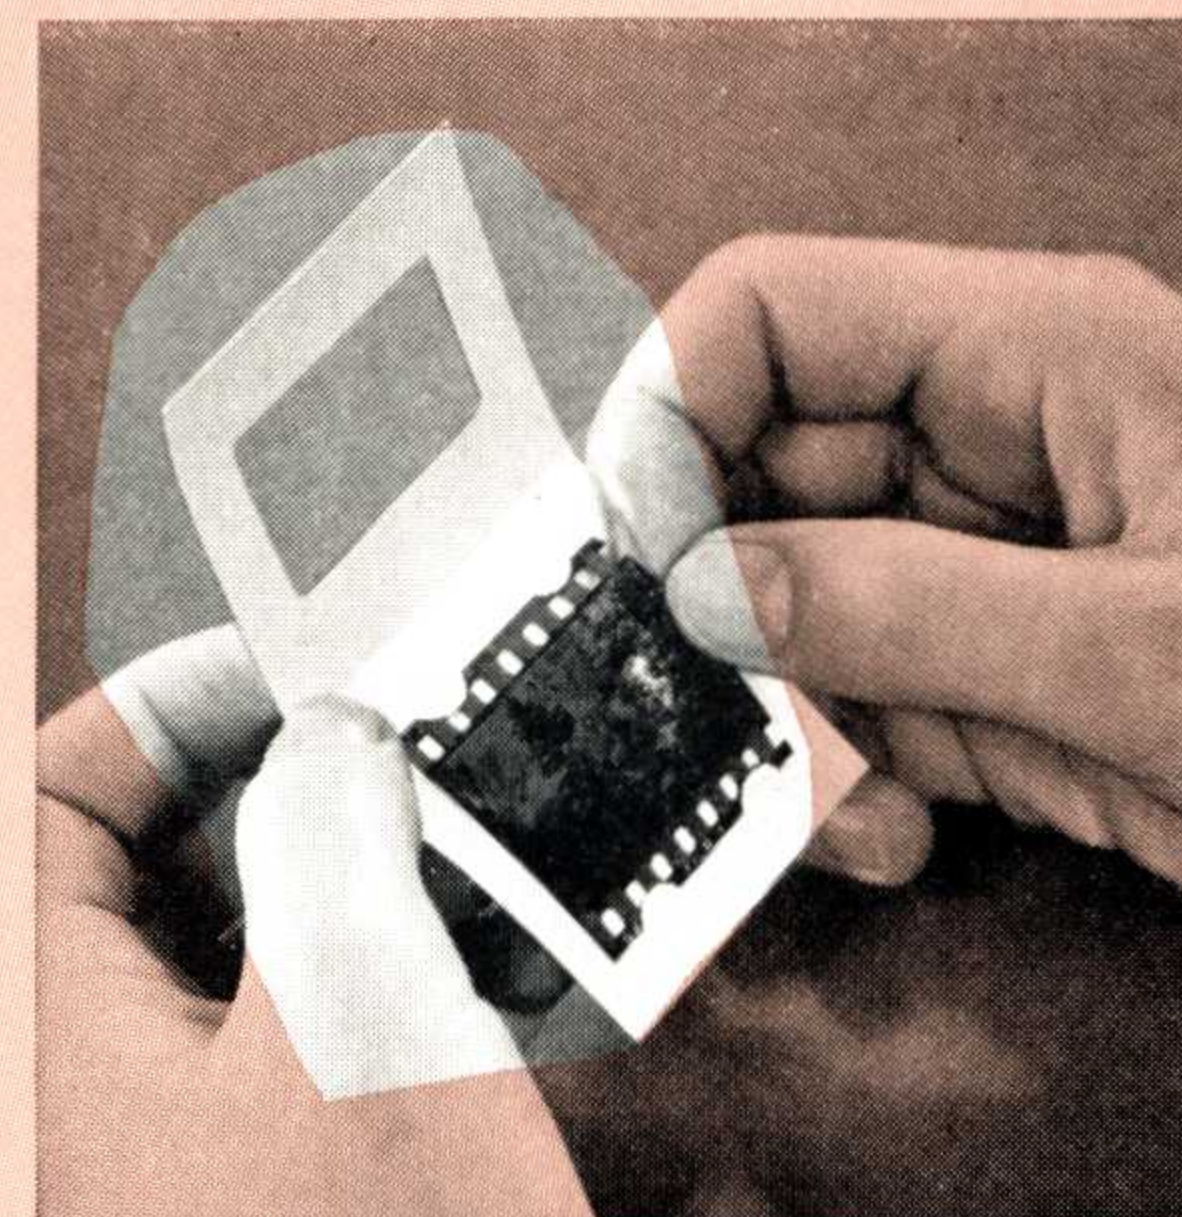

Figure 1—With the transparency positioned as it should appear on the screen, slip the film under the four tabs of the mask.
Hold the opened mask as shown in figure 1, with the aluminum side at the back of the upper half of the mask. With the transparency positioned as it should appear on the screen, insert it under the tabs. Since 28 x 40mm (828) transparencies are not centered, be sure to insert them in the mask so that the wider margin is covered. Now fold the mask (aluminum side out) and add any desired data to the mask front.